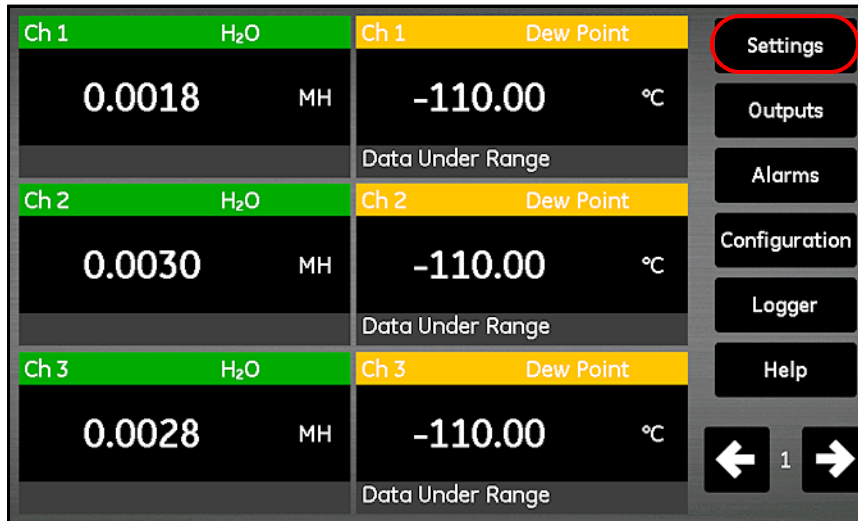

Figure 93: Settings Button on the Main Screen
3. From the main screen, tap the **Settings** button (see *Figure 93* on the next page).